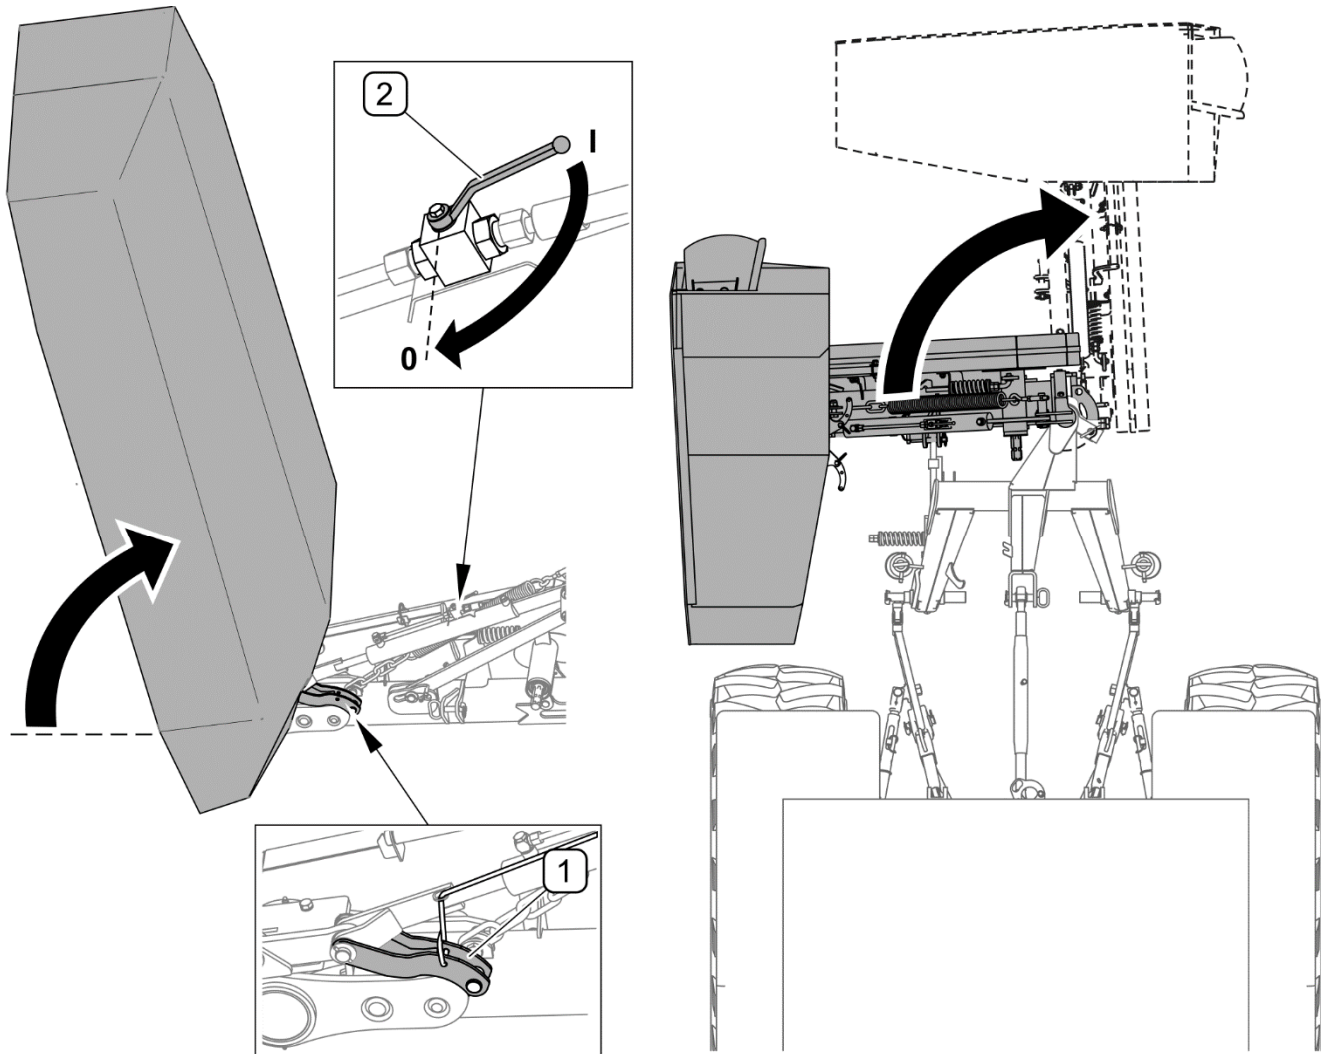

FIGURE 4.4 Setting transport position
- raise lifting arm by operation of appropriate hydraulic circuit in tractor until it is locked with the catch (1) (FIGURE 4.4),
- close cylinder valve (2)
- raise lifting arm by operation of appropriate hydraulic circuit in tractor until it is locked with the catch (1) (FIGURE 4.4), close lifting cylinder valve (2),
- close lifting cylinder valve (2) (FIGURE 4.4)
During transport of the mower mounted on the tractor, the cylinder valve (2) (FIGURE 4.4) should be set in position "0 – closed"
(1) - safety device; (2) - pin; (3) - cotter pin
To disassemble the safety device (1) from the lifting arm, remove the cotter pin (3) and pin (2), lift the safety device (1) and mount it in the linkage. The safety device is dismantled in order to set the mower to the transport position (A, C FIGURE 4.4).